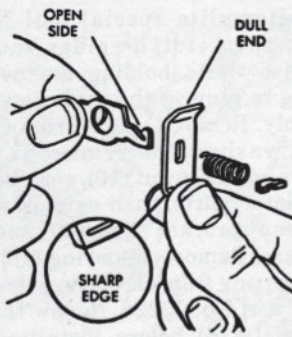

Fig. HL229-If Fairbanks-Morse starter friction shoe assembly is disassembled, be sure to reassemble as shown.
Fig. HL227—Fairbanks-Morse counter-clockwise rotation starter similar to that used on model ZIP. Refer to Fig. HL229, for assembly of friction shoe assembly (8) if unit has been disassembled. Note direction of sharp edge on shoes when reassembling starter. Refer to Fig. HL228 for legend.
Fig. HL228—Exploded view of Fairbanks-Morse starter used on WIZ series and model Super 77. Fig. HL229 shows proper method of assembling friction shoe assembly if it has been disassembled for some reason; individual parts of friction shoe assembly are not available. Note direction for sharp edges of shoes when reassembling starter.